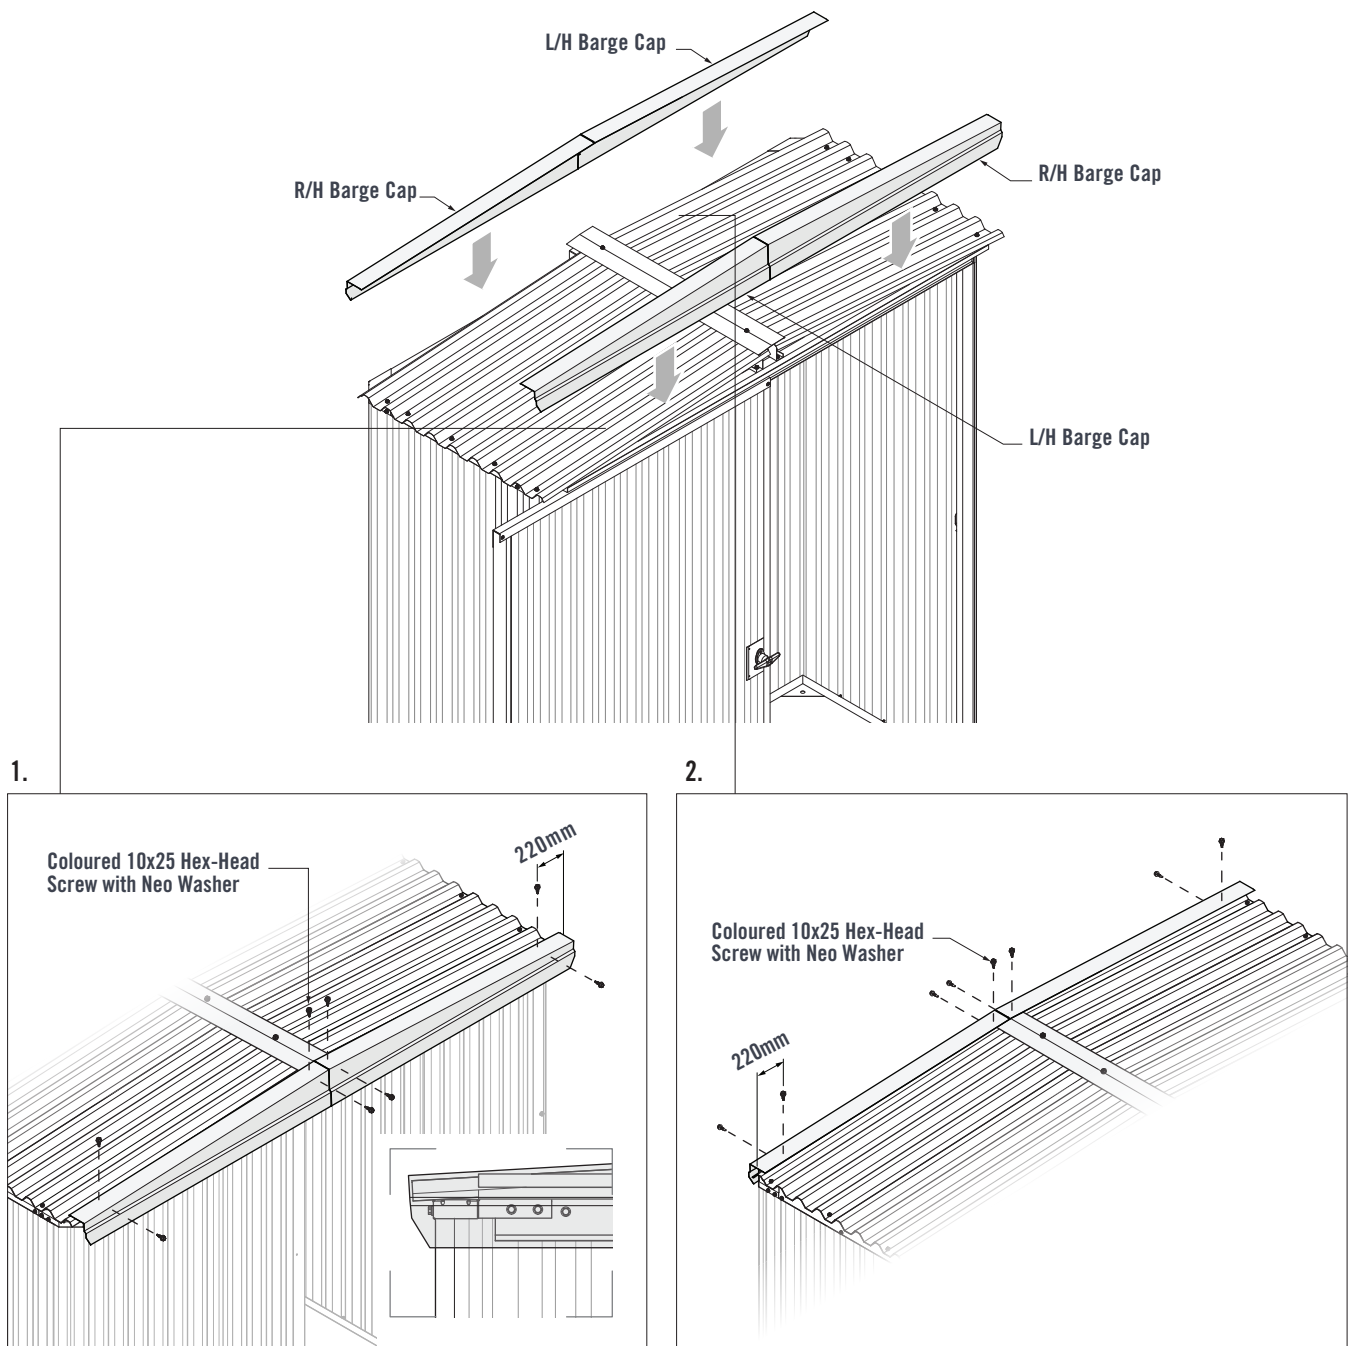

FIGURE 7.6
1. Place the L/H Barge Cap over the Roof Sheet at the front of the shed. The front face of the Barge Cap should fit up against the Barge Support. The ends of the Barge Cap Should align with the end of the roof sheet (Figure 7.6).
Fasten two coloured 10x25 Hex-Head Screws with Neo Washers through the front face of the Barge Cap into the Barge Support. Fasten two coloured 10x25 Hex-Head Screws with Neo Washers through the top of the Barge Cap and into the crests of the Roof Sheets. Install the R/H Barge Cap in the same manner on the front right side of the shed (Figure 7.6).
2. Place the remaining L/H and R/H Barge Caps over the Roof sheets at the rear of the shed. Align the ends of each Barge Cap with the ends of the Roof Sheets (Figure 7.6).
Fasten two coloured 10x25 Hex-Head Screws with Neo Washers through the front face of each Barge Cap into the rear Wall Channel. Fasten two coloured 10x25 Hex-Head Screws with Neo Washers through the top of each Barge Cap and into the crests of the Roof Sheet (Figure 7.6).